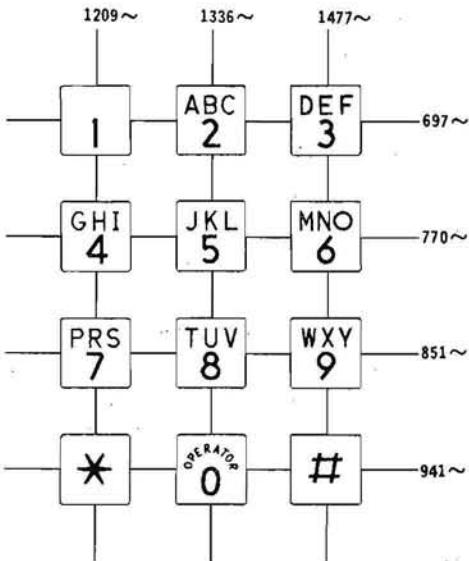
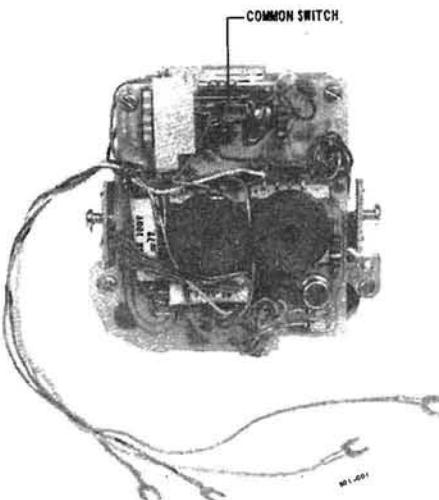

Fig. 2 - Dial Frequencies
Fig. 3 - NE-35Q3A1 Dial, Rear View
- 2.02 Any pushbutton when depressed will close one low band and one high band frequency contact. These contacts close a path for 2 of the 7 output frequencies of the oscillator (Fig. 2). Continued travel of the button will operate the common switch (Fig. 3). Each button operates a different pair of frequency contacts. For example,
2.03 The common switch (Fig. 3), when operated, reduces the sidetone to the receiver, opens the transmitter path, applies bias voltage to the transistorized oscillator, and breaks the dc energy path to the tank coils.